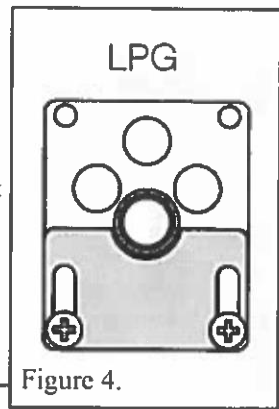

Figure 4.
4. Locate and secure the aeration shutter plate to the LPG burner (See figure 4).